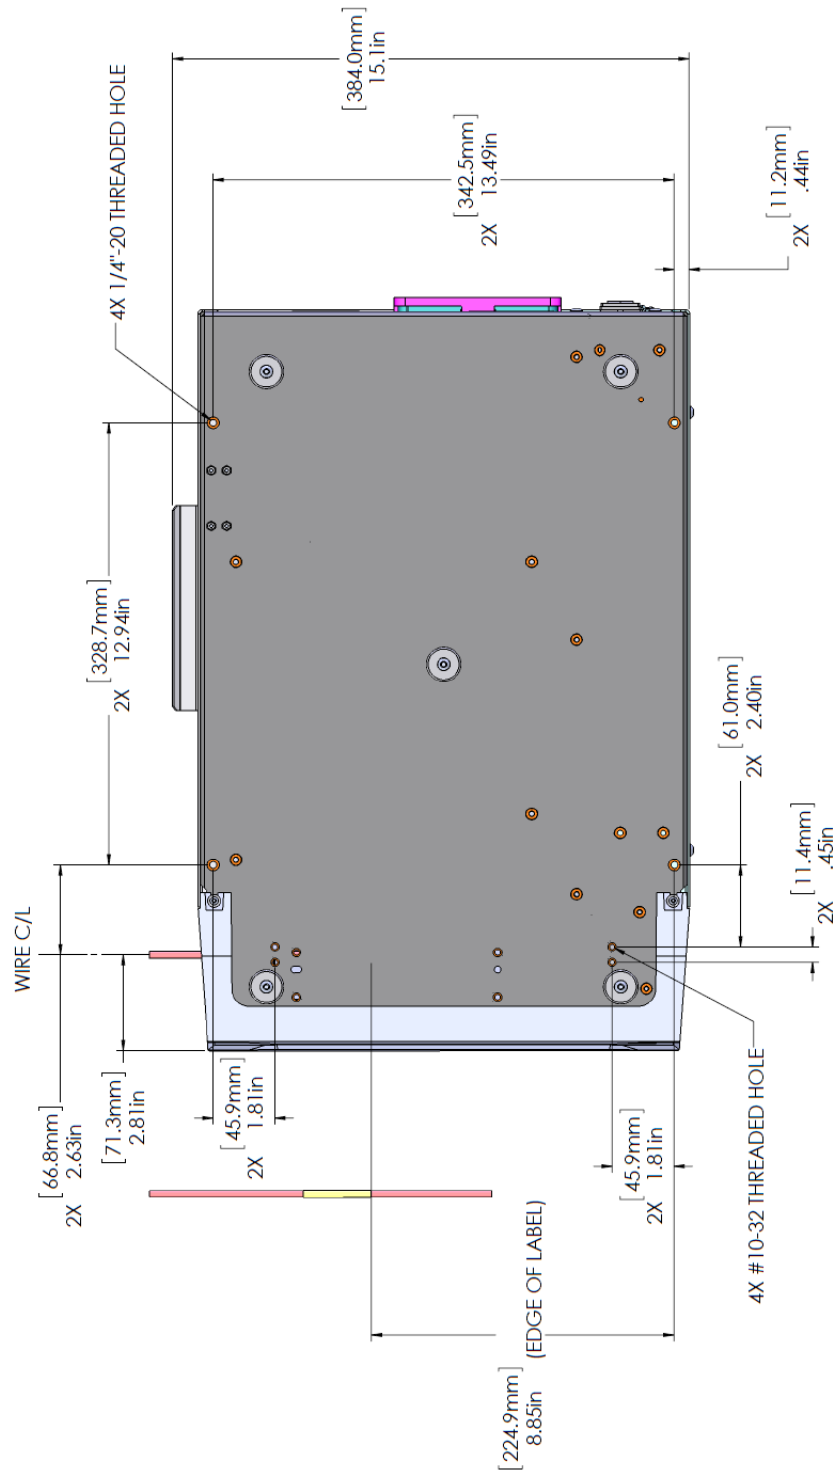

Figure A-1. Bolt Holes for Mounting Printer
1. Use the dimensions in Figure A-1 on page A-2 to measure and mark the location of the bolt holes on the work surface.
You will need four bolts with thread size 10-32. See Figure A-1 on page A-2 for the location of the size 10-32 bolt holes.